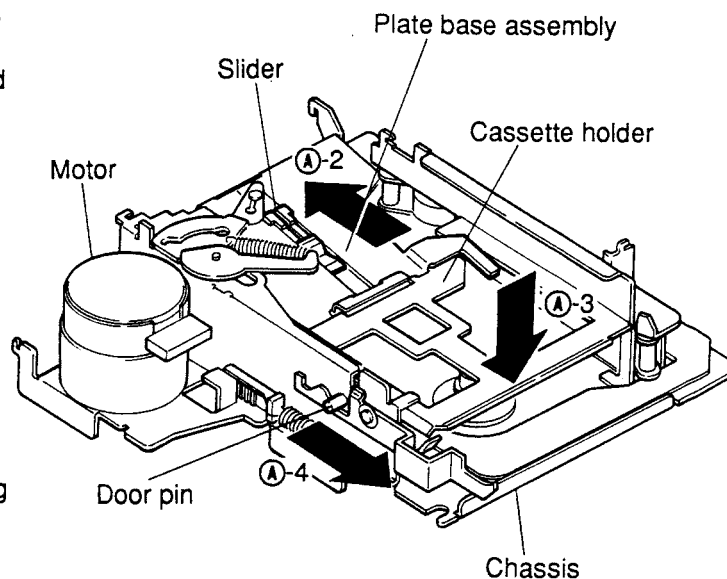

Figure 2
- (5) When remounting the bottom cover, first turn the front of the mechanism up as shown in Figure 2.
- (6) Slide the slider in the direction ①-2 as shown in Figure 2.
- (7) Push down the cassette holder in the direction ①-3 as shown in Figure 2.
- (8) Pull the door pin in the direction ①-4 so that the mechanism is locked in as shown in Figure 2.